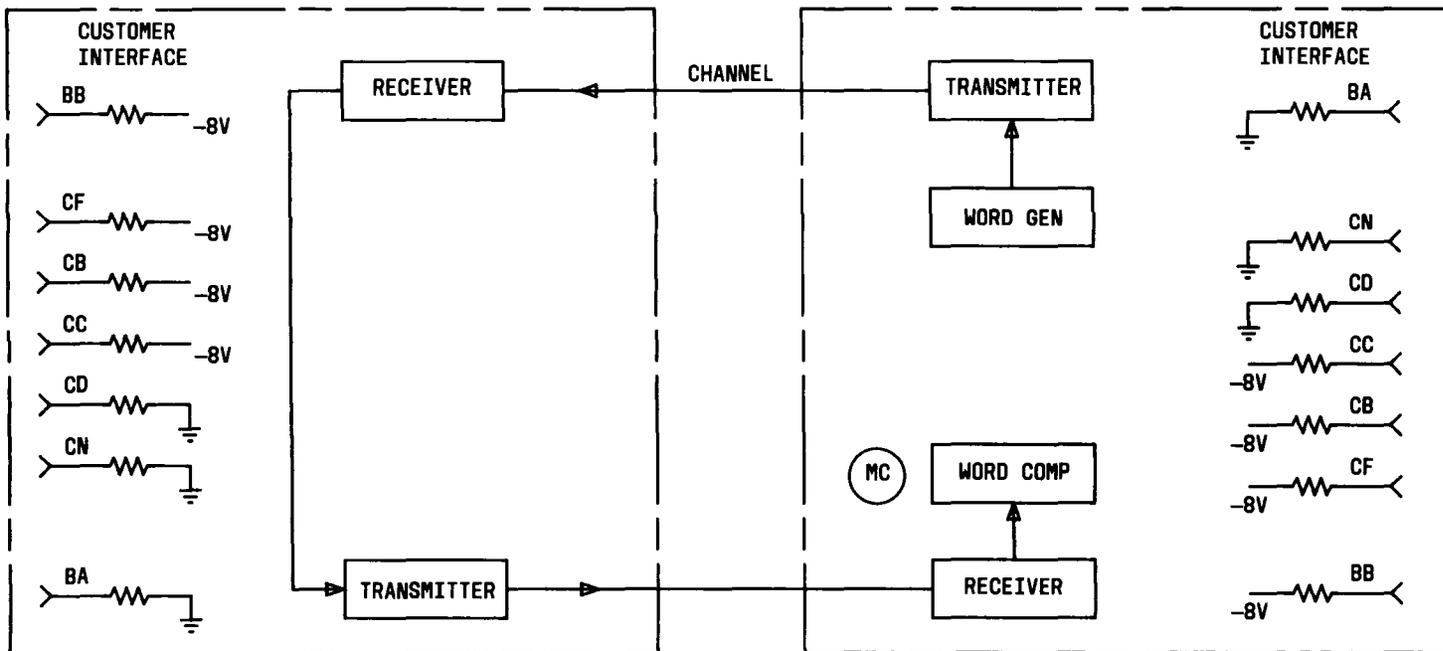

Fig. 6—Digital Loopback—Simplified Block Diagram
- (3) Release AL and ST switches.
4.05 This test uses the digital loopback capability of the data set at one end and the self-test (pattern generating and comparing) capability of the data set at the other end (Fig. 6). The test is performed by putting one data set in the DL mode, placing the other data set in the ST mode, placing a call, and then going to the data mode. The MC indicator on the data set that is in the ST mode blinks if the distortion threshold (25 percent) is exceeded in the low-speed mode or if a bit error is detected in the received data in the high-speed mode. Perform the test in the speed mode used by the CPE. The speed mode is selected by use of the HS switch on the data set (depressed for high-speed mode, released for low-speed mode).